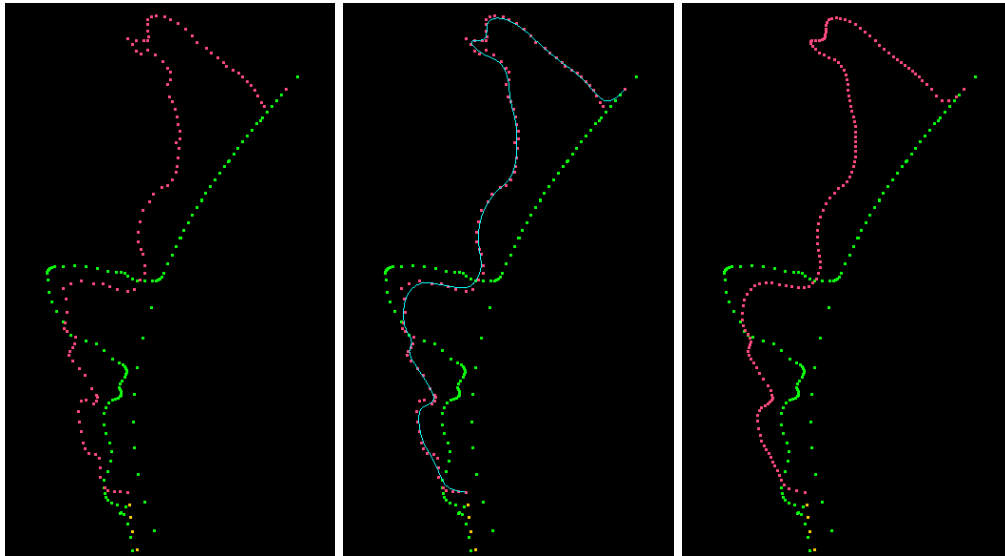

Figure 13. Left to right: original points; curve smoothed using 40 control points (control points not shown); new curve with 150 points.
- Make sure the view is zoomed into the area at the front of the airfoil (Figure 13).
- Make changes permanent, or discard the changes the same way you did in the *Tanh Redistribution* window. Figure 13 shows what these changes would look like if you made them permanent.